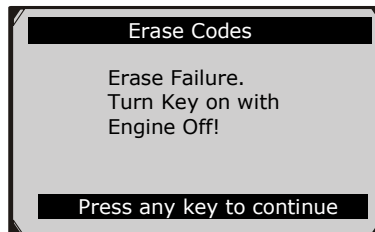

Figure 6.9
- If the codes are not cleared, then an “Erase Failure. Turn Key on with Engine off!” message appears (Figure 6.9).